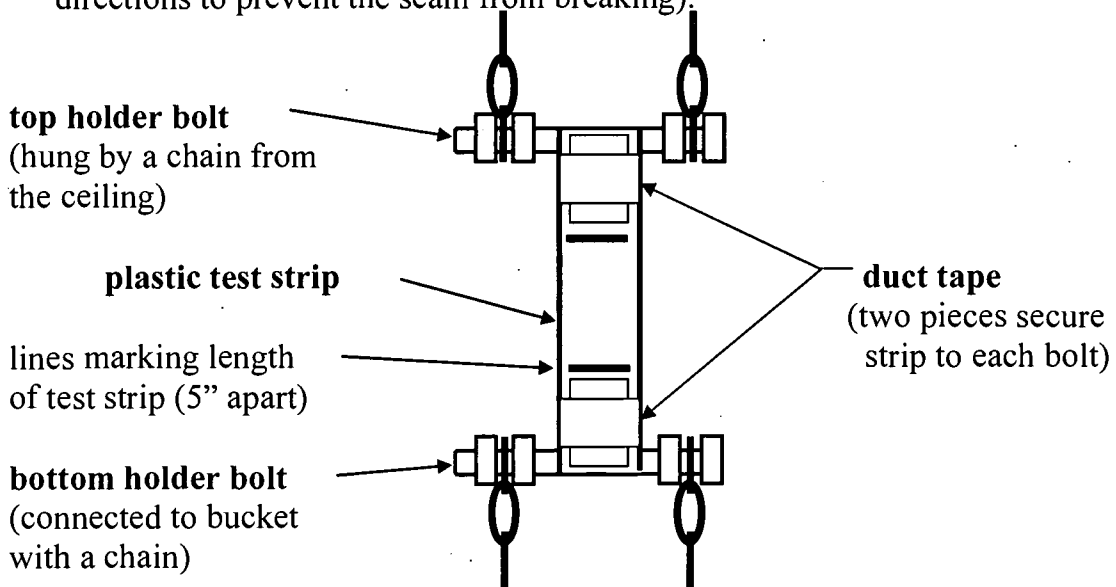

Figure 1: Mounting a Test Strip in the Test Fixture
- 4) Place your team's test strip in the testing device as shown: Tape a strip into the test fixture (see Figure 1). For each end, you will fold 3" of the strip over the bolt, and then place a 4" piece of duct tape vertically across the seam. Place another 5" piece of duct tape horizontally across the seam and fold it over to the other side of the test strip (it is important to tape in both directions to prevent the seam from breaking).
- 5) With a marker, draw two lines on your test strip (see Figure 1) that are 5" apart (the lines must not be on the duct tape). These lines mark the initial length of your test strip. The ends of the strip that are covered with duct tape don't count as part of the test length because the duct tape adds strength to the material.